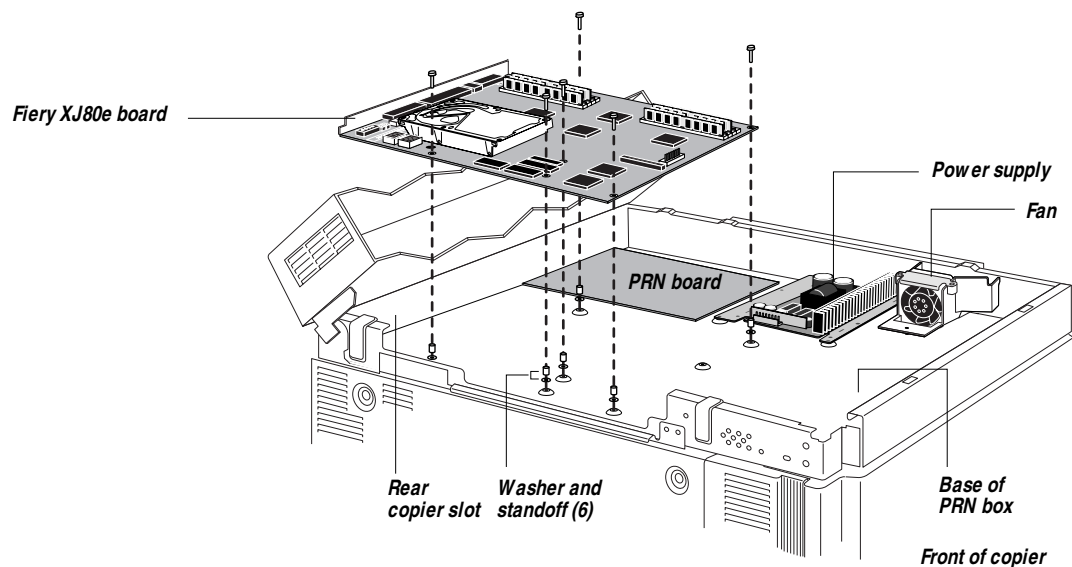

Figure 2-15 Installing Fiery XJ80e board
3. **Install the six standoffs with washers in the mounting holes on the base of the PRN box (see Figure 2-15).**
6. **Insert the six screws into the screw holes on top of the Fiery XJ80e board to secure it (see Figure 2-15 on page 2-17).**